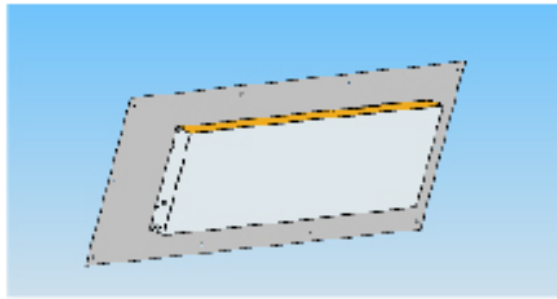

Figure 3
- The panel, now shown in Figure 3, can be used as the drilling template for attachment to the custom panel.